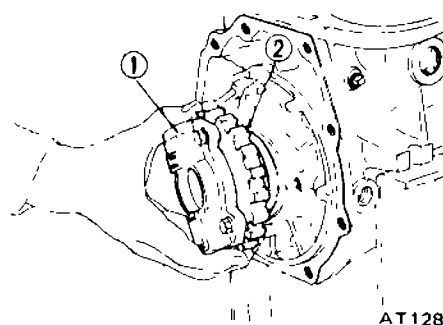

Fig AT-62 Removing governor and oil distributor
- 16 Pull out output shaft, remove oil distributor ② together with governor valve ①. See Figure AT-62.